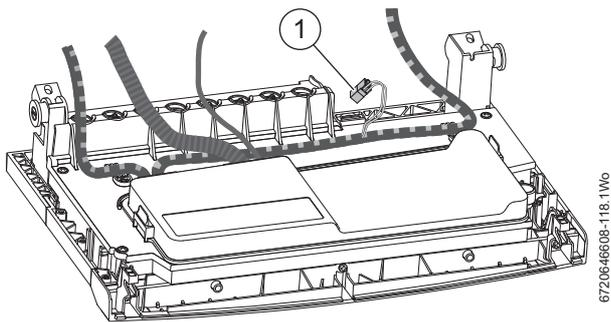

Fig. 26 Unused connector
4. Mark from the centre line of the wall mounting template to the wall that the flue will pass through (4).
i Refer to Figure 26. The connector (1) in the wiring harness is for use on other appliances and does not provide a function on this Greenstar iSystem Compact